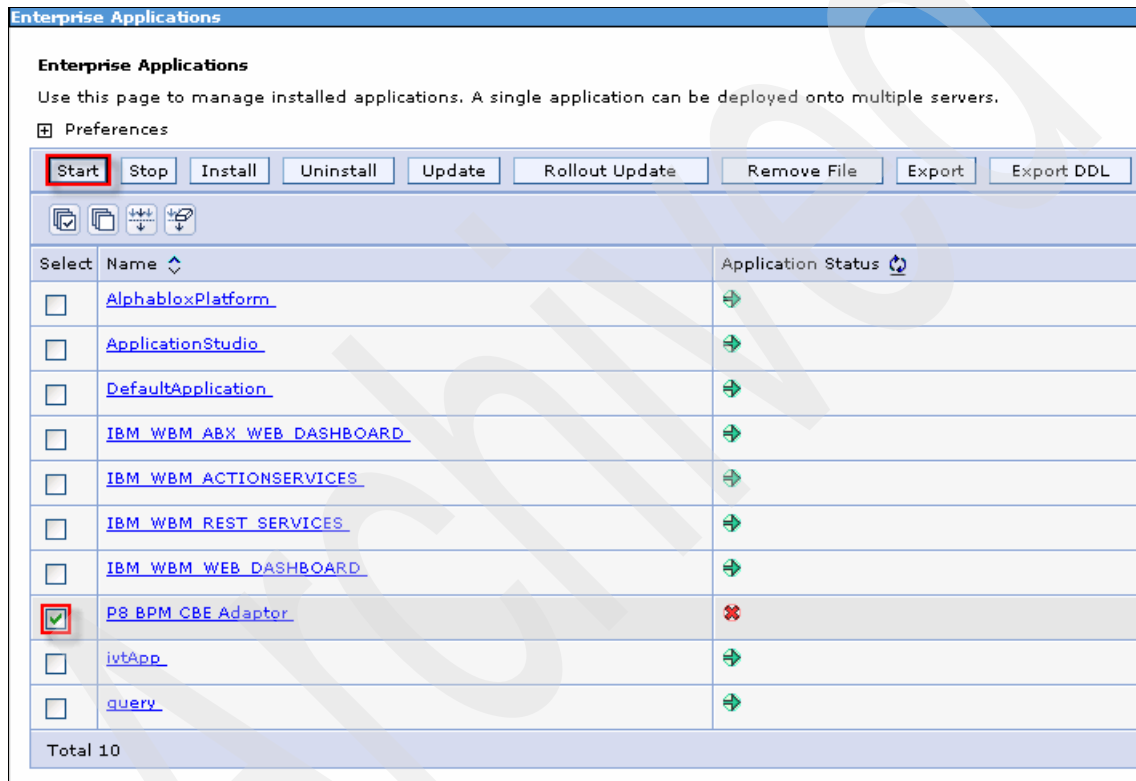

Figure 7-29 Starting the P8_BPM_CBE_Adaptor application
2. In the Enterprise Applications panel (Figure 7-29), select the **P8_BPM_CBE_Adaptor** check box. Click **Start**.